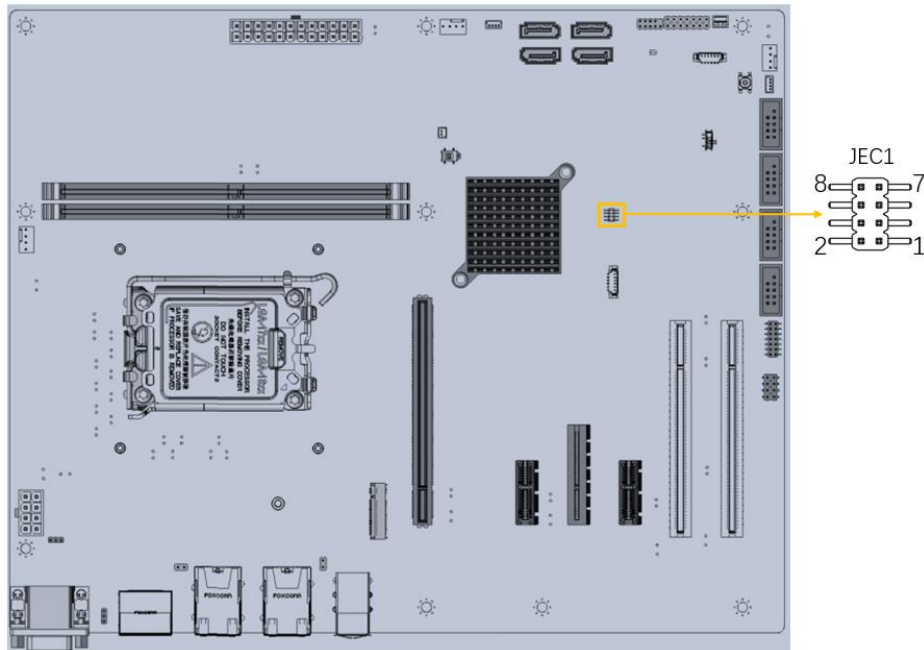

Figure 3-25: Flash EC ROM Connector Location
- CN Location:** See Figure 3-25